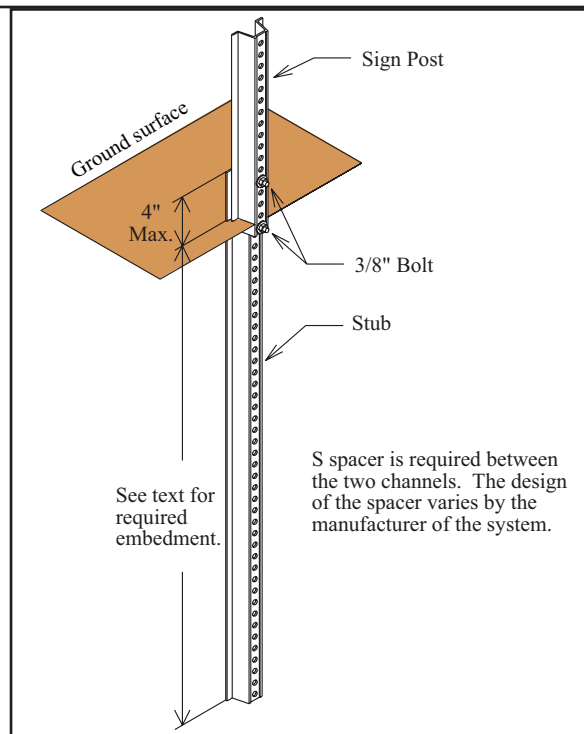

Figure J-6. Lap-splice/base bolted anchor
- ❖ Base-bolted sign post system using Franklin Flanged Channel (Figure J-6). Only one 4.0 lb/ft or up to three 2.0, 2.5, or 3.0 lb/ft posts may be installed within a 7-foot span. Posts must be embedded a minimum of 38 inches in strong soil or 60 inches in weak soil. When installed in weak soil, soil plate supplied by manufacturer must be used.
- ❖ Lap Splice™ U-Channel Breakaway System using either 3.0 lb/ft or 4.0 lb/ft Marion Steel Rib-Bak U-Channel Posts (Figure J-6). No more than 3 posts shall be mounted within a 7-foot span. The post shall be embedded into the ground a minimum of 36 inches. This support may be directly embedded in both weak and strong soils, however if the 4.0 lb/ft is used in weak soil, a soil plate must be used.